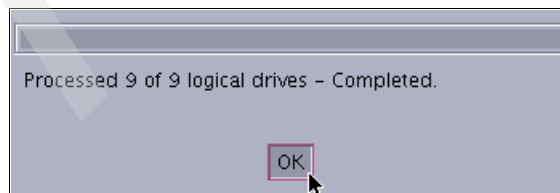

Figure 13-43 Suspend Mirrored Pair: Completed
- Type **Yes** into the text box and click **OK** to continue. The Suspend Mirrored Pair - Progress window displays. When all mirrored pairs are suspended, the progress window will indicate it has completed (Figure 13-43). Click **OK** to return to the Logical View.